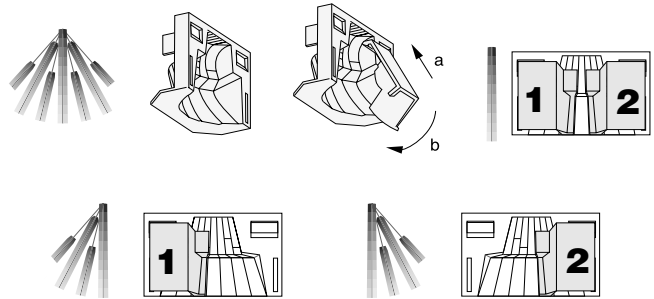

Figure 3. Plastic masks
- Use one or both of the plastic masks provided to mask off large areas of coverage as shown in Figure 3.